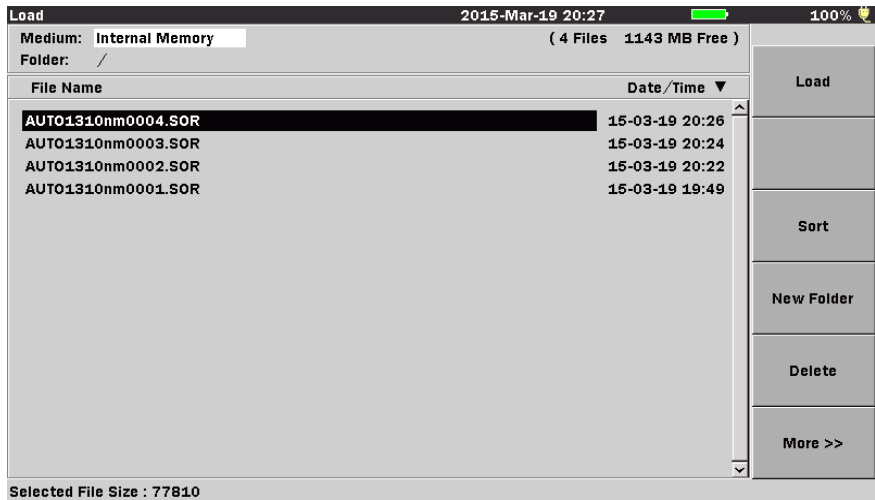

Figure 5-25: Load screen
1. Press the **File key**, the Load screen appears (see Figure 5-25 on page 5-62).
Use either the Load screen (see Figure 5-25 on page 5-62) or the Save screen (see Figure 5-29 on page 5-72) to delete any data files stored in the internal memory